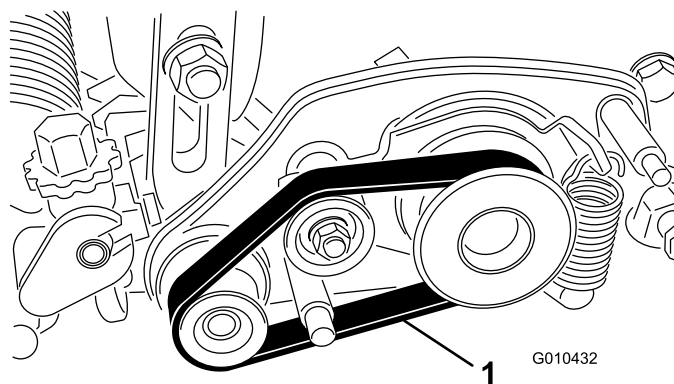

Figure 18
2. Insert the belt onto the driven pulley, idler pulley, and pulley assembly as shown in Figure 18.